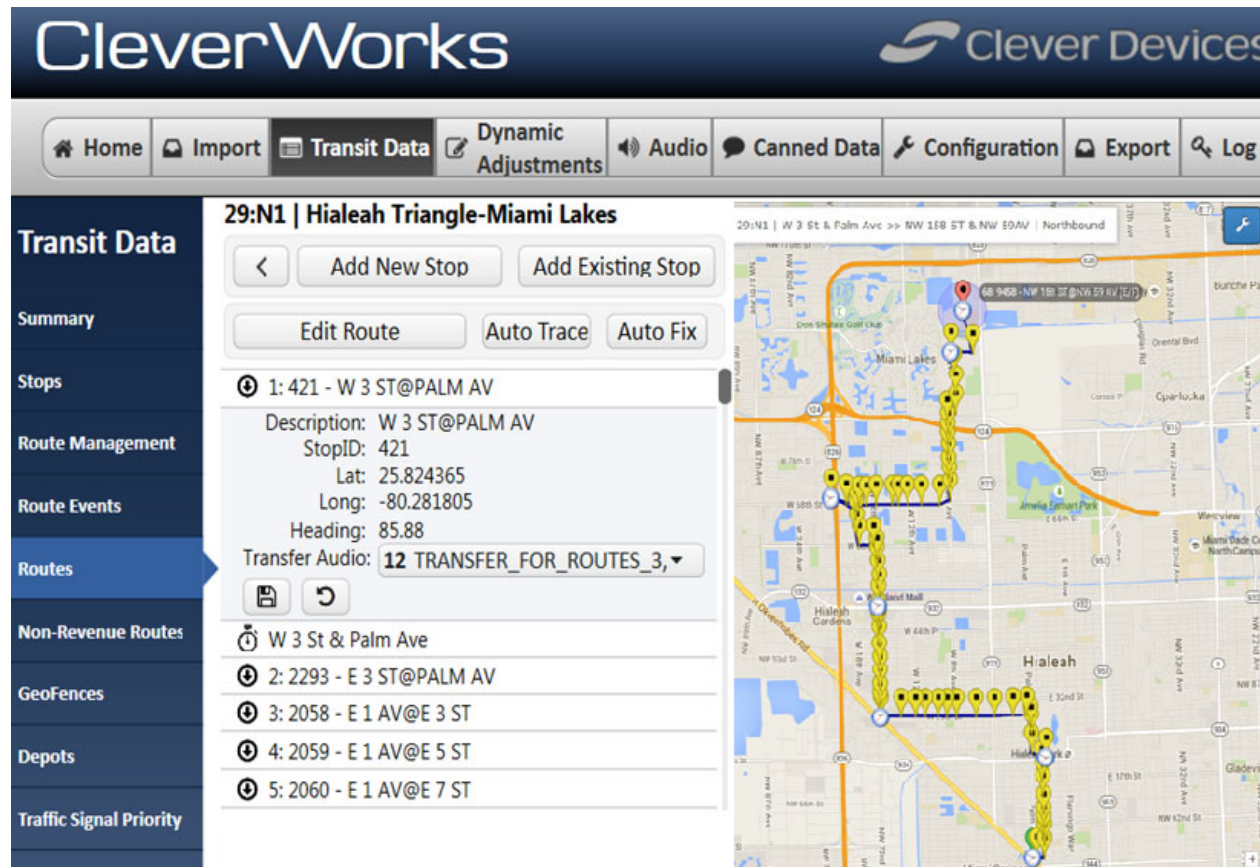

FIGURE 5: CLEVERWORKS INTUITIVE USER INTERFACE
- A comprehensive suite of **powerful data editing and management tools** with a modern and intuitive user-friendly interface, as shown in Figure 5.